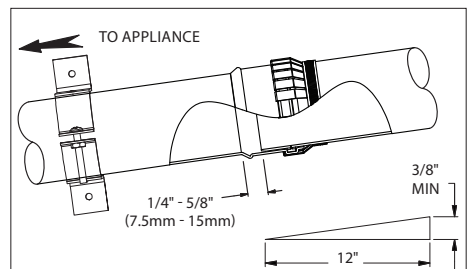

Figure 7
Refer to the appliance manufacturer's installation instructions for requirements of condensate drainage. Ensure proper system slope for drainage. (Fig.7 and 20)
3. **The slope of the vent pipe must be at least 1.8° (3/8" rise per ft run, 31mm per meter) back to the appliance.** Ensure there are no dips in the system where condensate can collect. (Fig.7)
PP Pipe sections must be disengaged 1/4"-5/8" per joint (to allow for expansion) and sloped 1.8°(3/8"per ft) back to the appliance per Fig.7 for proper condensate flow.